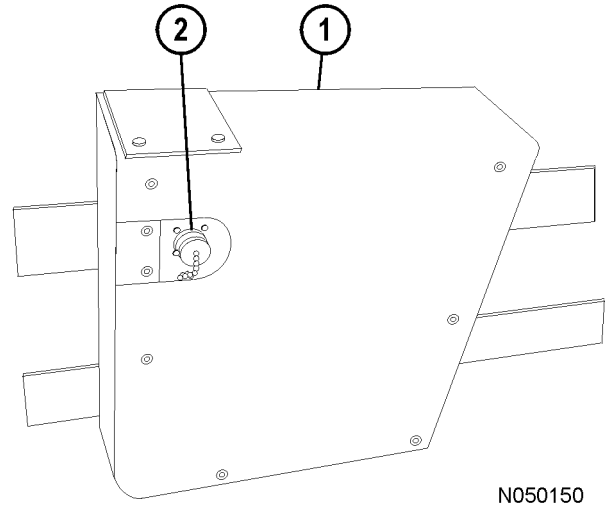

FIGURE 32-7. PAYLOAD METER
Payload meter (1, Figure 32-7) and payload meter download connector (2) are used to provide management with operational data, such as tonnage hauled and cycle times.
Payload meter download connector (2, Figure 32-7) is used with a special cable to allow payload meter (1) to communicate with a portable computer.